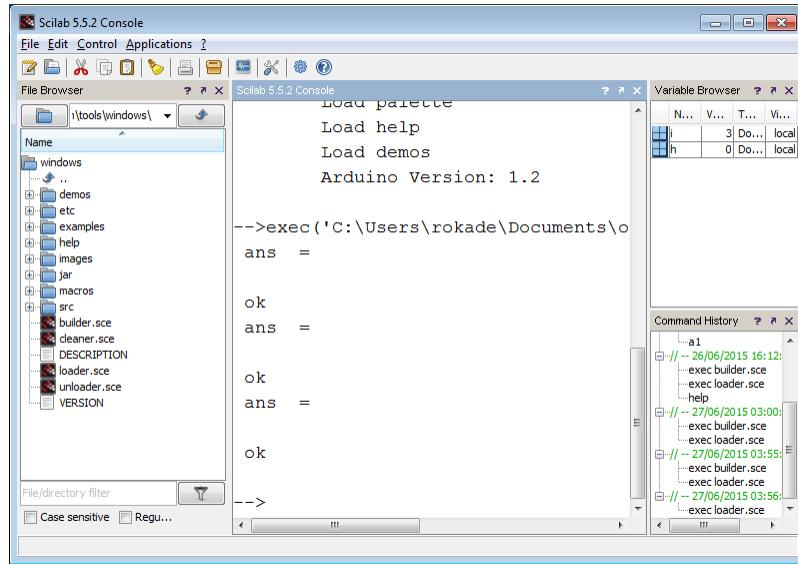

Figure 3.13: Scilab test code output
7. To execute this code, on the menu bar, click on the Execute, option. Then choose File with no echo. The output will appear on the Console as shown in Fig. 3.13. As shown in the figure, we see the response of this code as “ans = ” and “ok” three times. The code basically gives some input to Arduino three times and the program inside it returns “ok” three times. This code thus confirms the working of the Scilab-Arduino toolbox. The code also confirms that the firmware inside the Arduino is correct. It is alright if one or two of the attempts out of three give a blank response. But all the three responses certainly should not be blank⁵.